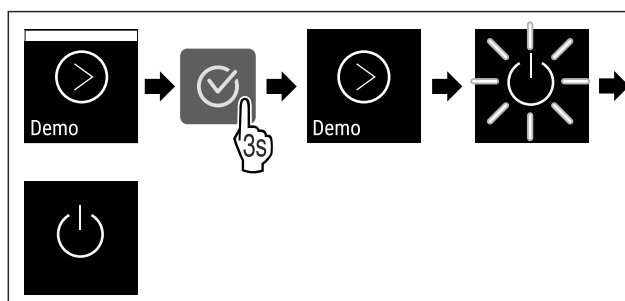

Fig. 111
- ▶ Complete steps (see Fig. 111).